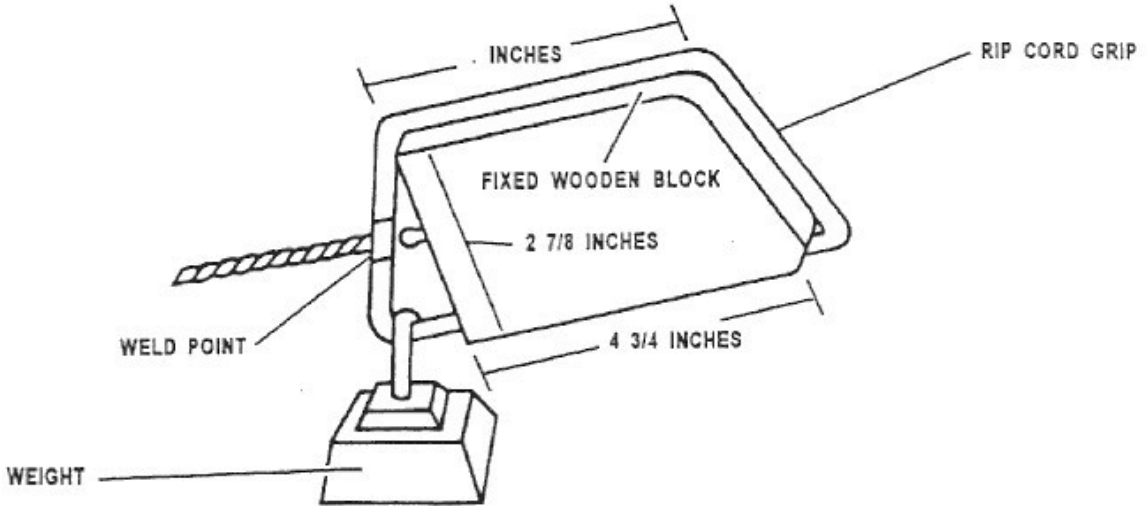

Figure 3-58
2. Perform the rip cord grip test. (See Figure 3-58)